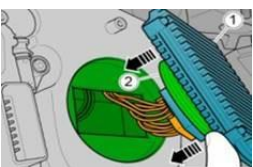

Figure 5
- Referring to Figure 5 - Insert the new control unit (1) into the headlamp assembly aperture (highlighted) - Take care not to dislodge the control unit seal (2)